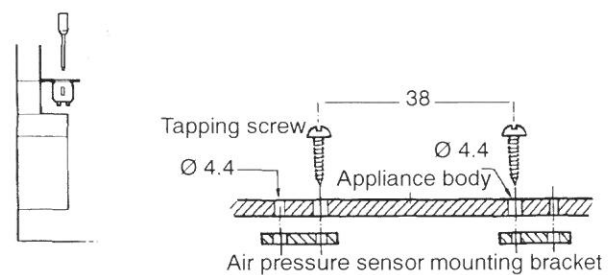

Fig. 7. Rear mounting methods and dimensions
- Rear mounting ( see fig. 7.)